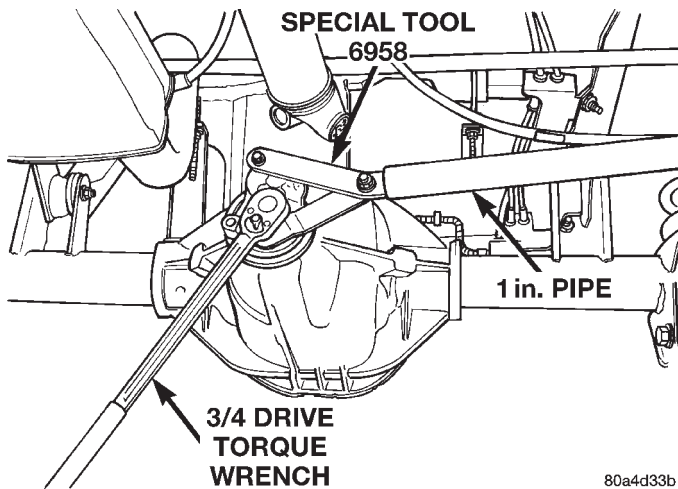

Fig. 58 Tightening Pinion Nut
(14) Using yoke holder 6958, a short length of 1 in. pipe, and a torque wrench set at 474 N·m (350 ft. lbs.), crush collapsible spacer until bearing end play is taken up (Fig. 58).